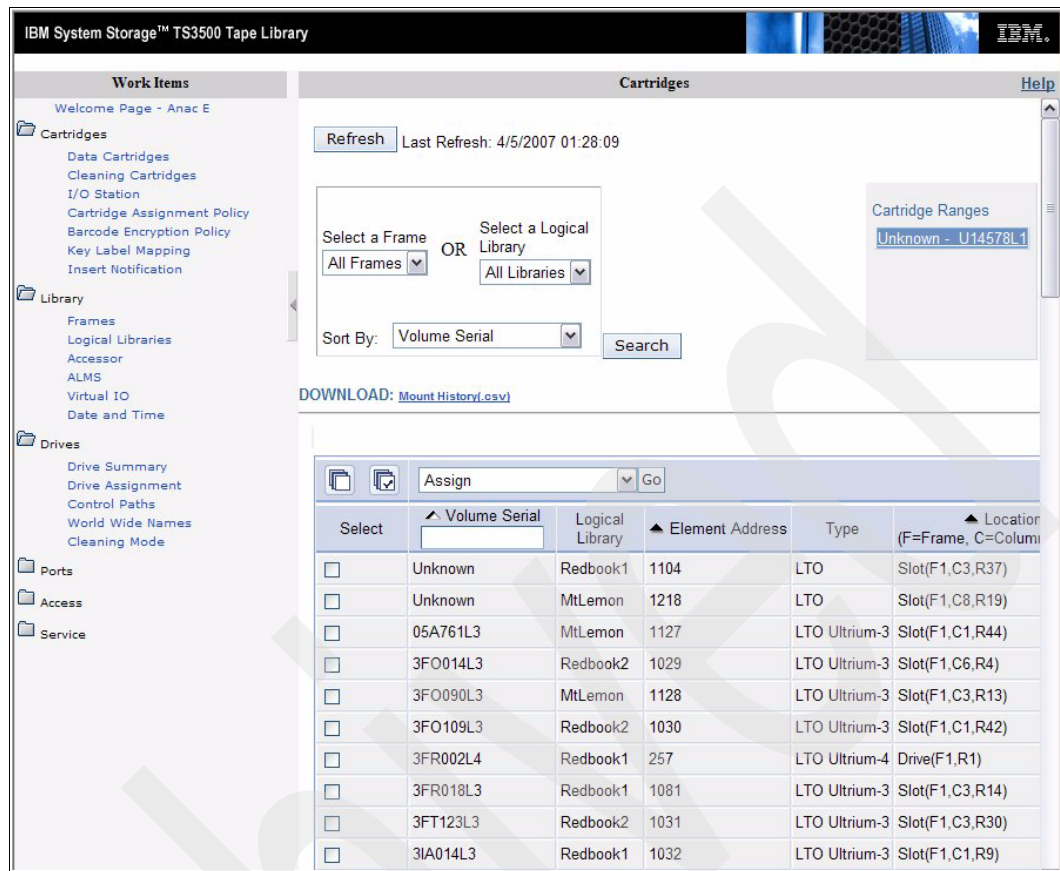

Figure 2-58 Cartridge list
3. In Figure 2-58, the Data Cartridges menu shows that the cartridge has moved to the new library. The cartridges has been given new element addresses according to the sequence of the new library, however, the cartridges remains in the same physical slots as before.